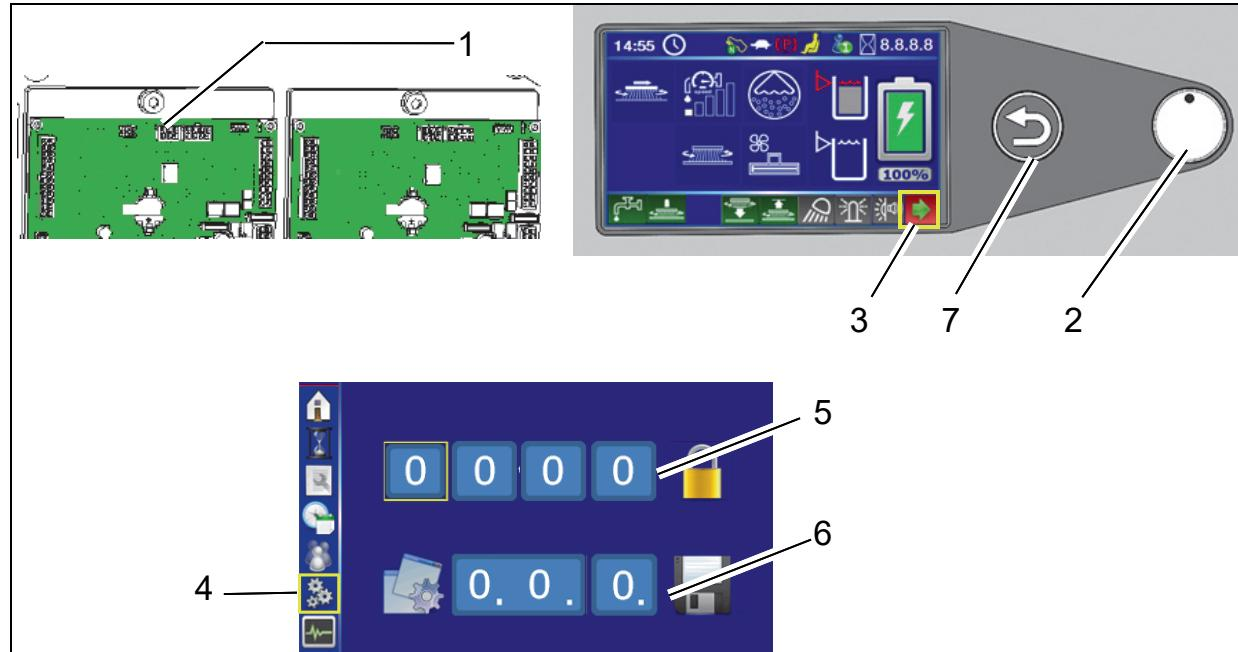

Fig. 7
Plug diagnostic connector into slot X20 of controller A1 (Fig. 7/1).
2. Select the arrow soft key (Fig. 7/3) on the control panel using the turn-push knob (Fig. 7/2) and press to access the sub-menu.
3. Select the configuration menu in the sub-menu (Fig. 7/4).
4. Enter the 4-digit code in the configuration menu at the top (Fig. 7/5):
In the configuration menu at the bottom (Fig. 7/6), set the value of the option and save by pressing the turn-push knob. After confirming the last digit, 'OK?' appears. Press the turn-push knob again to save the value. Saved value is displayed in green.
If the value is not to be saved, exit menu using the return key (Fig. 7/7).